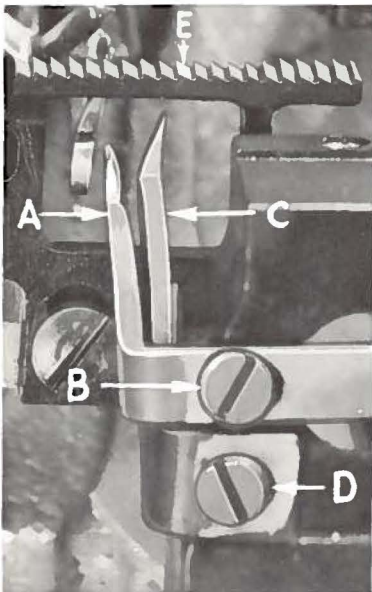

Fig. 4
Set rear needle guard (A, Fig. 4) as high as possible, without interfering with either lower looper or movement of lower knife holder; but still in position to deflect needle forward .002 - .004 inch. Screw (B) is used to set rear needle guard.
Now assemble main (front) feed dog (E, Fig. 4)
Assemble front needle guard (C, Fig. 4). When lower looper is springing needle off back guard, set front needle guard as close as possible to needle without touching. Screw (D) is used to adjust and set front needle guard. After this setting, make sure there is no interference between needle guards and main feed dog.